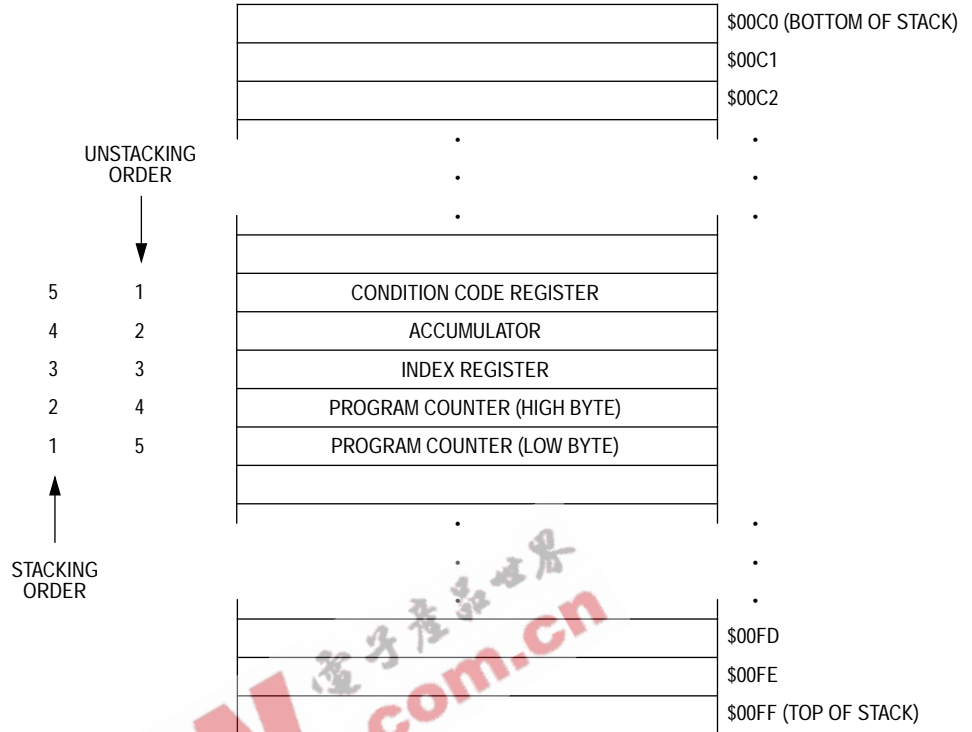

Figure 22. Interrupt Stacking Order
- Stores the CPU registers on the stack in the order shown in Figure 22
The return from interrupt (RTI) instruction causes the CPU to recover the CPU registers from the stack as shown in Figure 22.